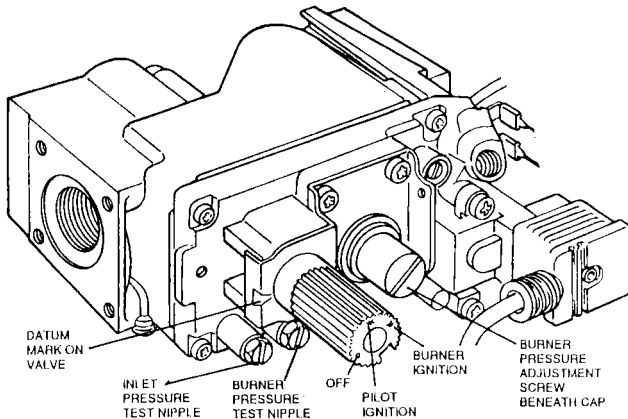
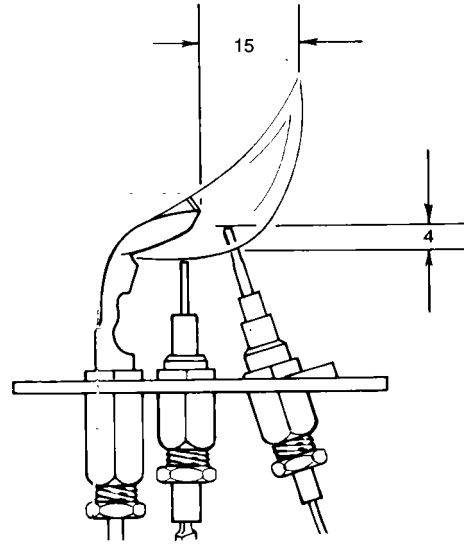

Figure 25 GAS CONTROL VALVE
Figure 26 PILOT BURNER
- F. Partly depress and turn the gas control knob clockwise ensuring the symbol ● lines up with the datum mark on the gas valve body. See Fig 25. This ensures that the valve is in the 'OFF' condition.
- A. Remove the screw from the burner pressure test nipple on the gas control valve and fit a pressure gauge to the test nipple. See Fig 25.
- C. If burner pressure adjustment is necessary, remove the screwed cap from the gas control valve, see Fig 25, and turn the screw beneath clockwise to increase pressure and anti-clockwise to reduce pressure.
The pilot burner pressure is non-adjustable. The pilot flame should heat the thermocouple so that the pilot safety device is “held in” but must not cause the thermocouple to glow bright red. Fig 26 illustrates the approximate size of a correct flame. The E.M.F. generated by the thermocouple should be of the order of 20-30 mV open circuit, 10-14 my closed circuit. Due to the voltage drop in the overheat thermostat circuit there should be 6.5-8.5 mV closed circuit at the connection to the gas control valve. Drop out should occur between 1-3 mV closed circuit. If these conditions cannot be achieved check that the inlet pressure is 20 mbar See Fig 25 for inlet test nipple position. If this is correct contact Potterton Myson.